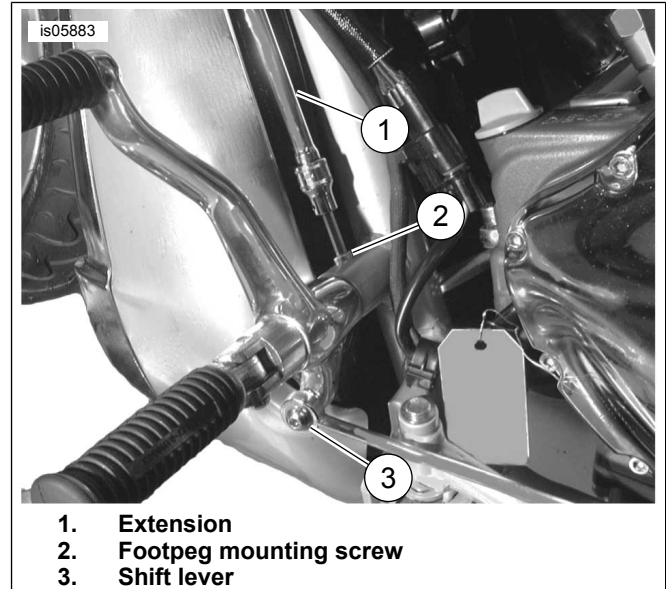

Figure 2. Remove Left Side Footpeg
- See Figure 2. Remove screw securing left side footpeg mount. Slide the mount out through shift lever and remove. Save screw for installation.